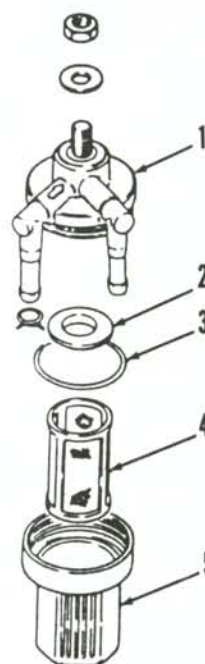

Fig. SZ11-37—Exploded view of fuel filter assembly.
FUEL FILTER. A fuel filter assembly is used to filter the fuel prior to entering the fuel pump. Periodically unscrew fuel bowl (5—Fig. SZ11-37) and withdraw filter element (4). Clean bowl and filter element in a suitable solvent and blow dry with clean compressed air. Inspect filter element for excessive blockage or other damage and renew if necessary. Reassemble in reverse order of disassembly. Renew "O" ring (3) and seal (2) upon reassembly.